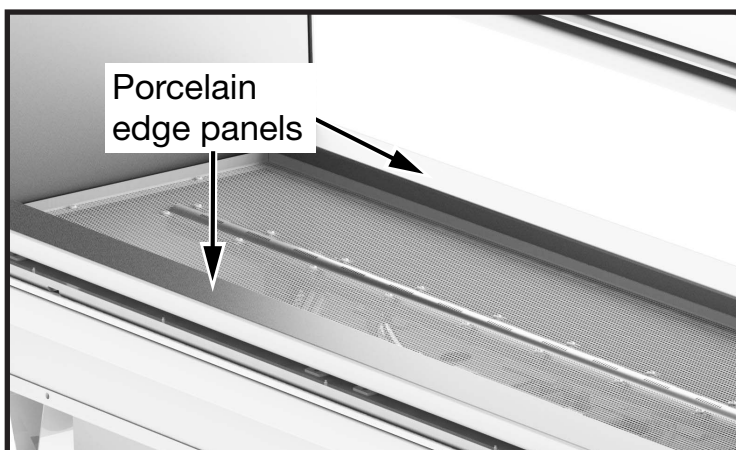

Figure 58: Porcelain edge panels.
1. If installed, remove the glass media, logs, or rock set from the burner tray and remove the edge panels (Figure 58 on page 34).
4. Place porcelain strips as shown in Figure 58.